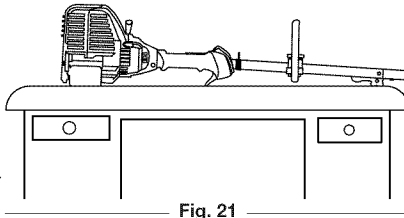

Fig. 21
2. Place the engine on a flat, level surface with the cutting head shield hanging off a work bench or table to get a proper oil level reading (Fig. 21).